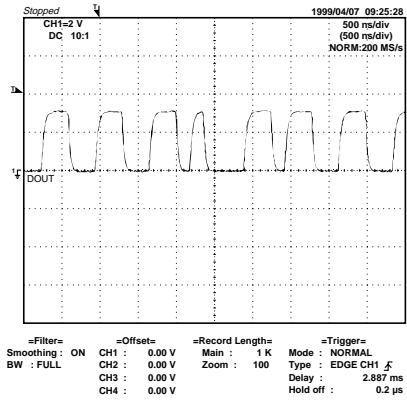

Figure 7
1. When playing at normal speed. Check the peripheral circuit at pin 39 (DOUT) on IC1 and the waveform (Figure 7).